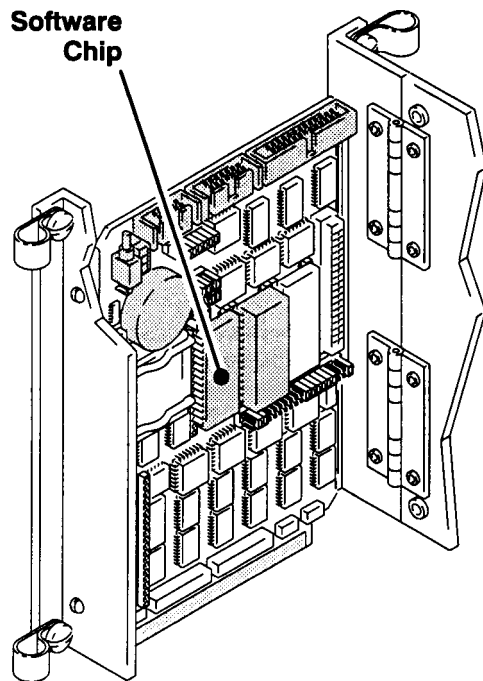

Fig 8
3. Locate the software chip on the computer card. See Fig 8. Note the direction of the chip and which side of the chip the blank spaces are on.